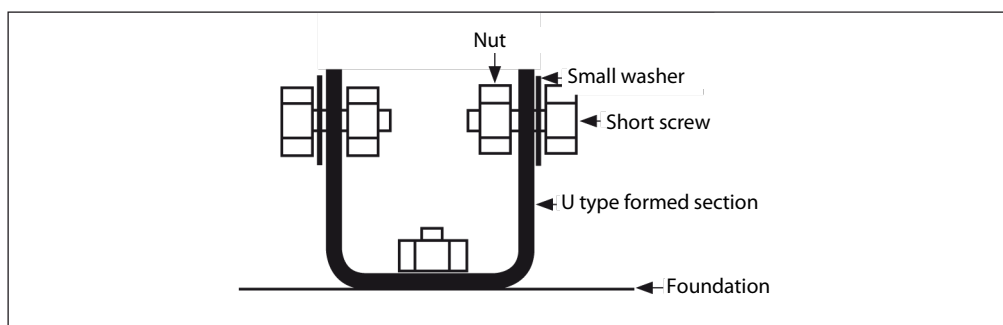

Figure 23
- Fit the short screws (20mm) in the remaining hole in one of the wide U formed sections that you have already attached to the foundations. You will need a nut and a small washer for each screw. Figure 23 shows how to assemble the screws.